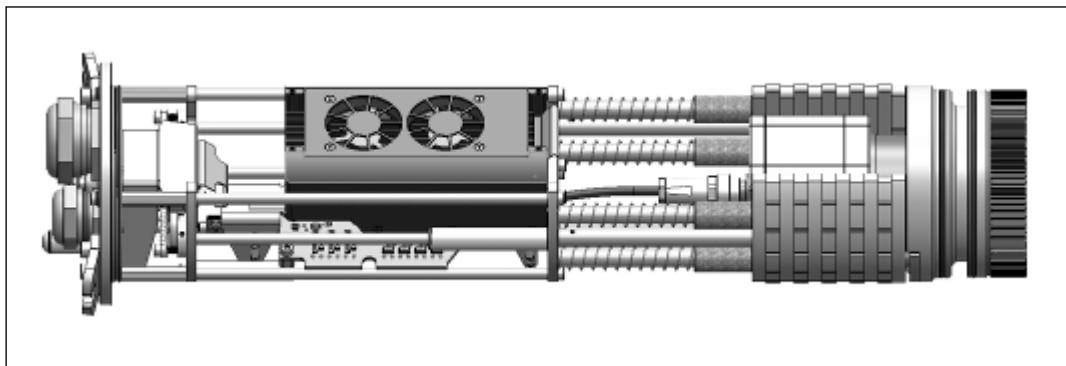

Figure 45: Chassis with PI camera, industrial PIF and PI NetBox
7. Then connect the PI camera and the PI NetBox with the provided USB cable and the Industrial PIF with the camera. Combine the network connector and the PI NetBox (**Figure 45**).